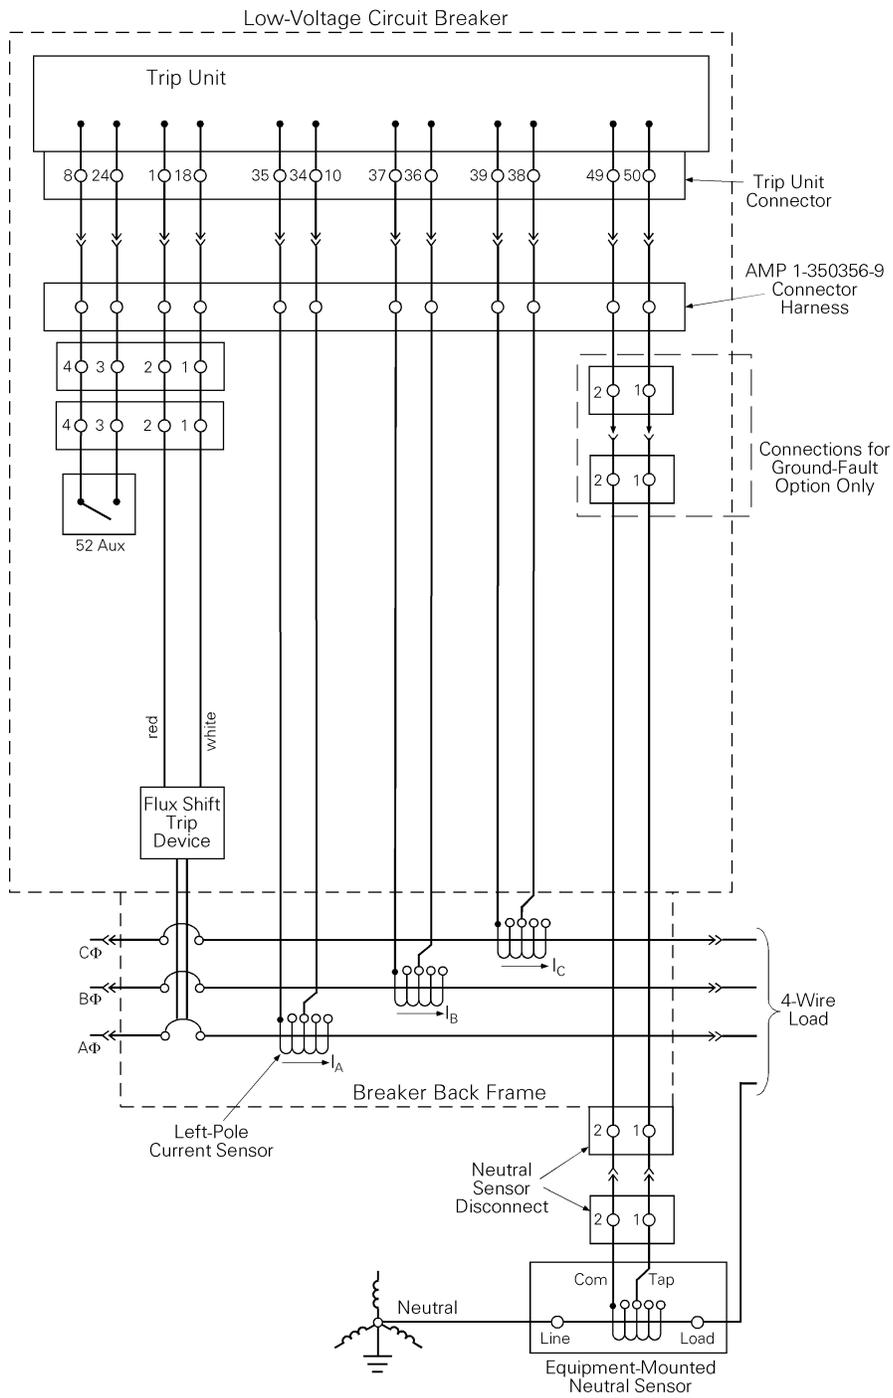

Figure 19. Cabling diagram for ProTrip™ trip units with ground fault on four-wire loads.
3. Verify that the wiring harness connections to the sensors have the proper polarity (white lead to common, black lead to tap), as shown in the cabling diagram in Figure 19.
4. On ground fault breakers serving four-wire loads, check that the neutral sensor is properly connected, as indicated in Figure 19. In particular, check the following: